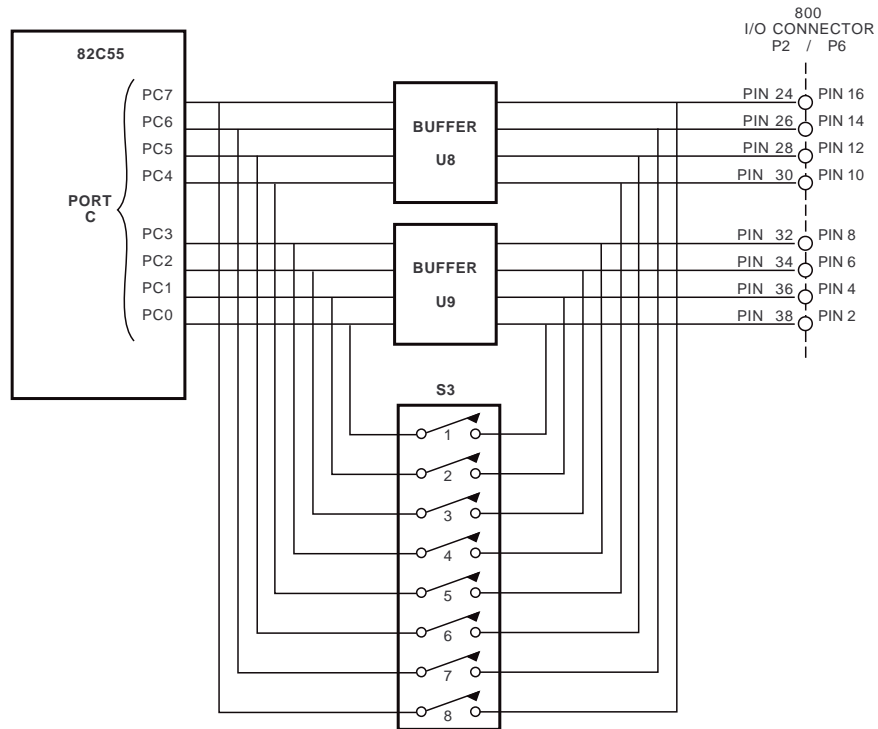

Fig. 1-9 — Port C Buffer Circuitry
**Mode 1 Operation (S3)** — When operating the 8255 in Mode 1, the lines of Port C function as control lines, some as outputs and some as inputs. When using Mode 1, the Port C buffers must be removed and bypassed to allow the Port C lines to be individually set as inputs or outputs. Figure 1-9 shows the Port C buffers, and the following steps tell you how to configure the board for Mode 1 operation.
**Mode 2 Operation (S2, S3)** — When operating the 8255 in Mode 2, the lines of Port A must be bidirectional and the lines of Port C function as control lines, some as outputs and some as inputs. When using Mode 2, both the Port A and Port C buffers must be removed and bypassed. Figure 1-10 shows the Port A buffers, Figure 1-9 shows the Port C buffers, and the following steps tell you how to configure the board for Mode 2 operation.